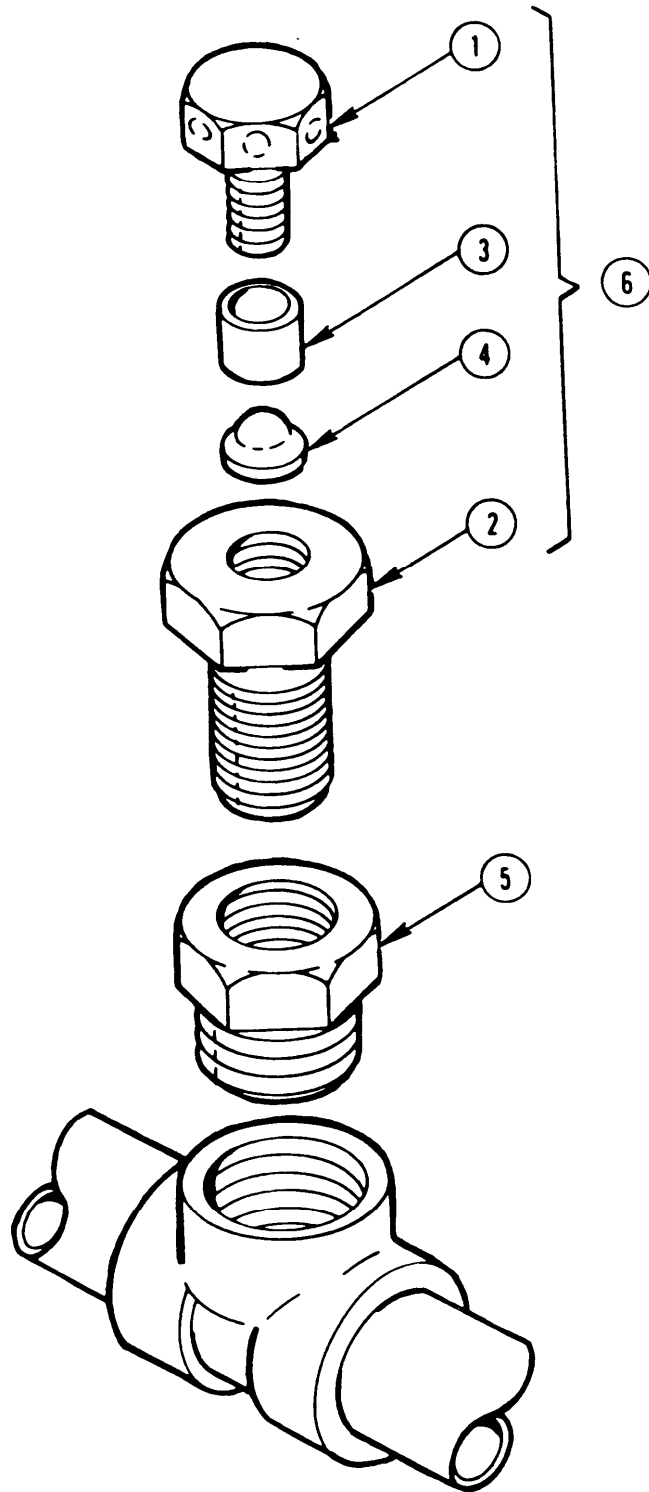

Figure 2-94. Rupture Disc Assembly
- b. Removal. (Figure 2-94)
- (1) Replace damaged cap.
- (2) Replace damaged bushing.
- (3) Replace damaged body.
- (4) Replace damaged or broken rupture disc.
- (5) Replace damaged spacer.
f. Installation. (Figure 2-94)